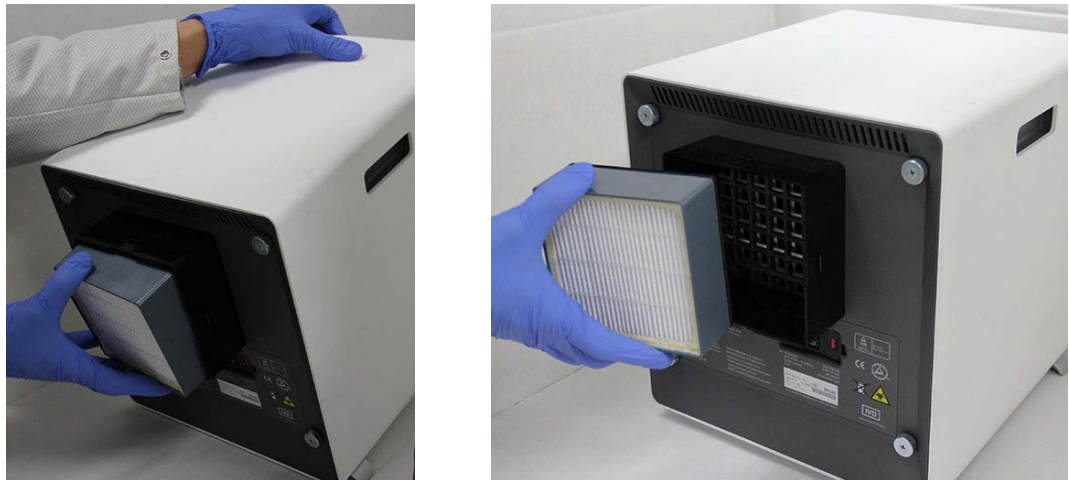

Figure 9-28. Removing the HE Filter
7. Tilt the GX-IV instrument to the surface toward you to remove the HE filter. The HE filter should come out easily. See Figure 9-28. Discard the old HE filter.